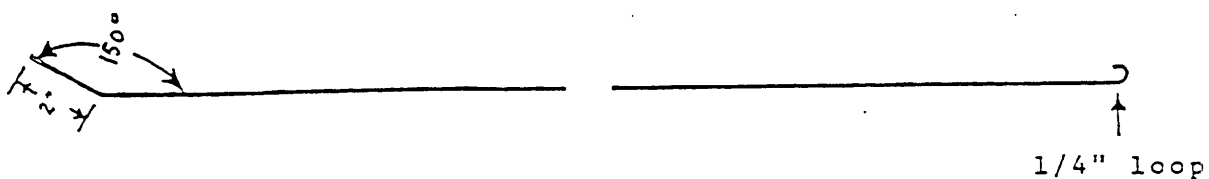

Fig. R-1 Cable fishing tool, 36" gas welding rod, 1/16" dia.
- Step# 6. Fabricate a cable fishing tool from the 1/16" diameter x 36" gas welding rod as shown in figure R-1. Make the 2" bend and the 1/4" loop on the opposite end of the rod on the same plane.